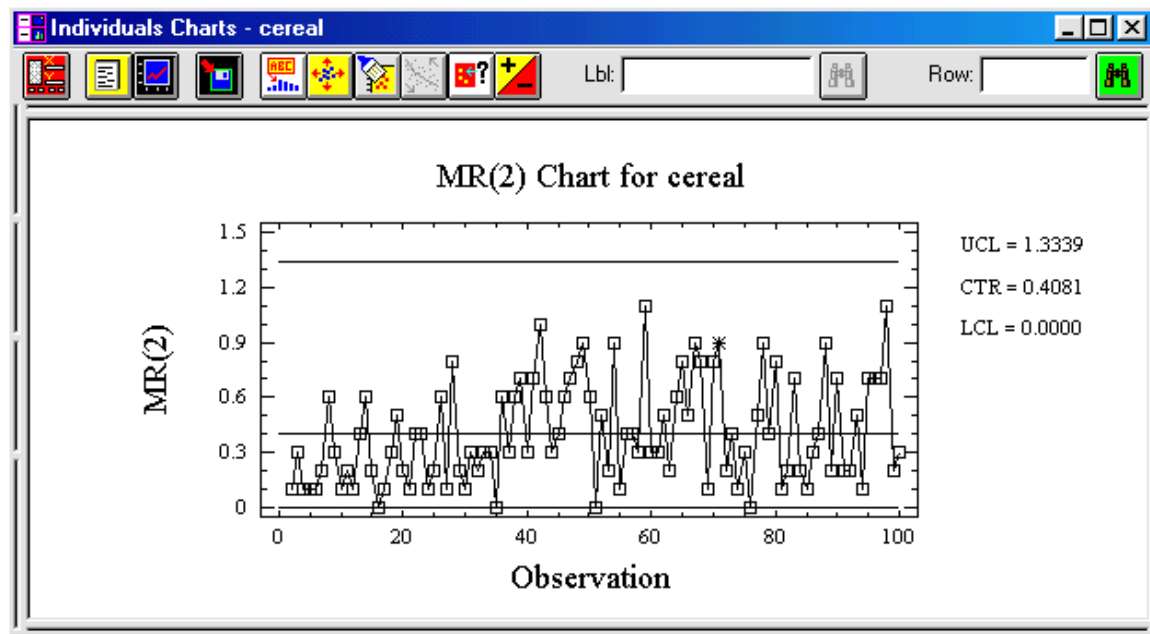

Figure 3-48. MR(2) Chart
The MR(2) Chart option creates a plot of the moving ranges for each of the measurements (see Figure 3-48). It indicates if any points are beyond the control limits. A process is out of control if points are shown outside the control limits, or if points are within the control limits, but arranged in a nonrandom sequence.